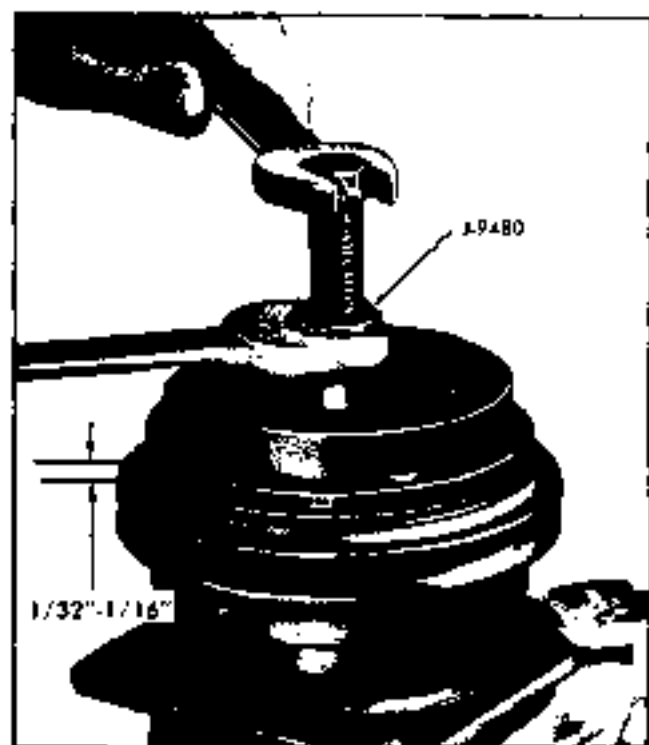

Fig. 1A-8 Installing Hub and Drive Plate Assembly
5. Remove pulley bearing wire retainer ring with an awl or a small screwdriver (Fig. 1A-10)
1. When replacing a new ball bearing assembly into pulley, use J 9481 pulley bearing installer (Fig. 1A-11).
3. Press or tap pulley and bearing assembly on the neck of the compressor, using J 9481 (Fig. 1A-12).